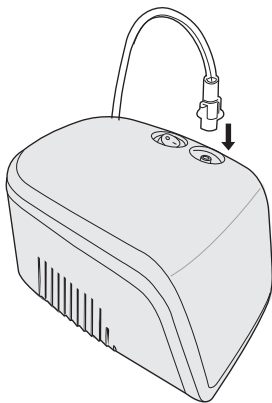

Fig. 1
3. Attach one end of the air tube to the tube connector at the back of the unit, Fig. 1. Turn on the power briefly to ensure that the unit is functioning properly and test that air is coming through the tubing, then turn the power off.